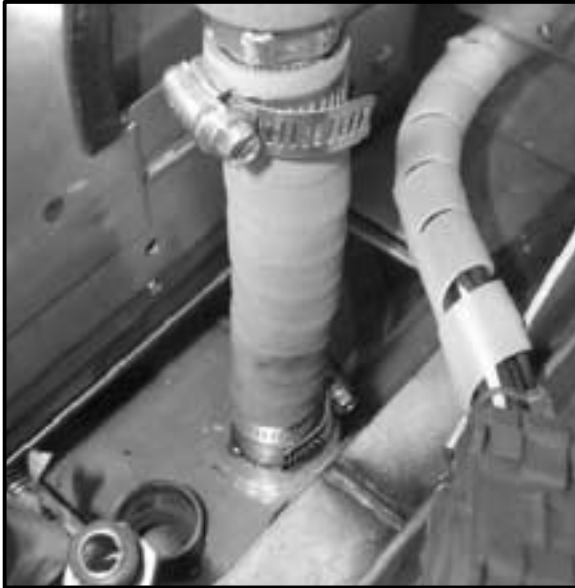

Figure 31
6. Install and reconnect the steam line to the lower oven section. See Figure 31. Secure the top of the hose with a band clamp. Insert the bottom of the hose in the fitting on the steam generator in the oven base section. This orange hose has a black foam insulated cover around it (shown with black foam insulation removed).